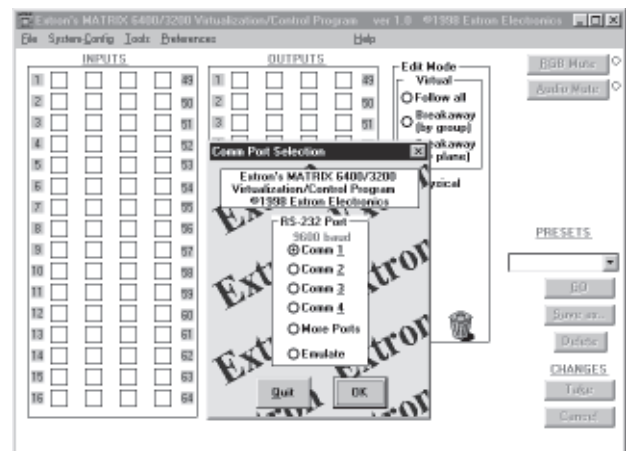

FIGURE 3-6.A
The Comm Port Selection window (figure 3-6.A on page 3-6) appears.
- Ensure that the System has been Virtualized before creating any Rooms. Establish an RS-232 connection between the PC and BME #0 of the Matrix 3200/6400 System. Start the MTRX6400 program (under Windows) and click on the corresponding **COMM PORT** number when asked (Figure 3-6.A). Click **OK**, or.....